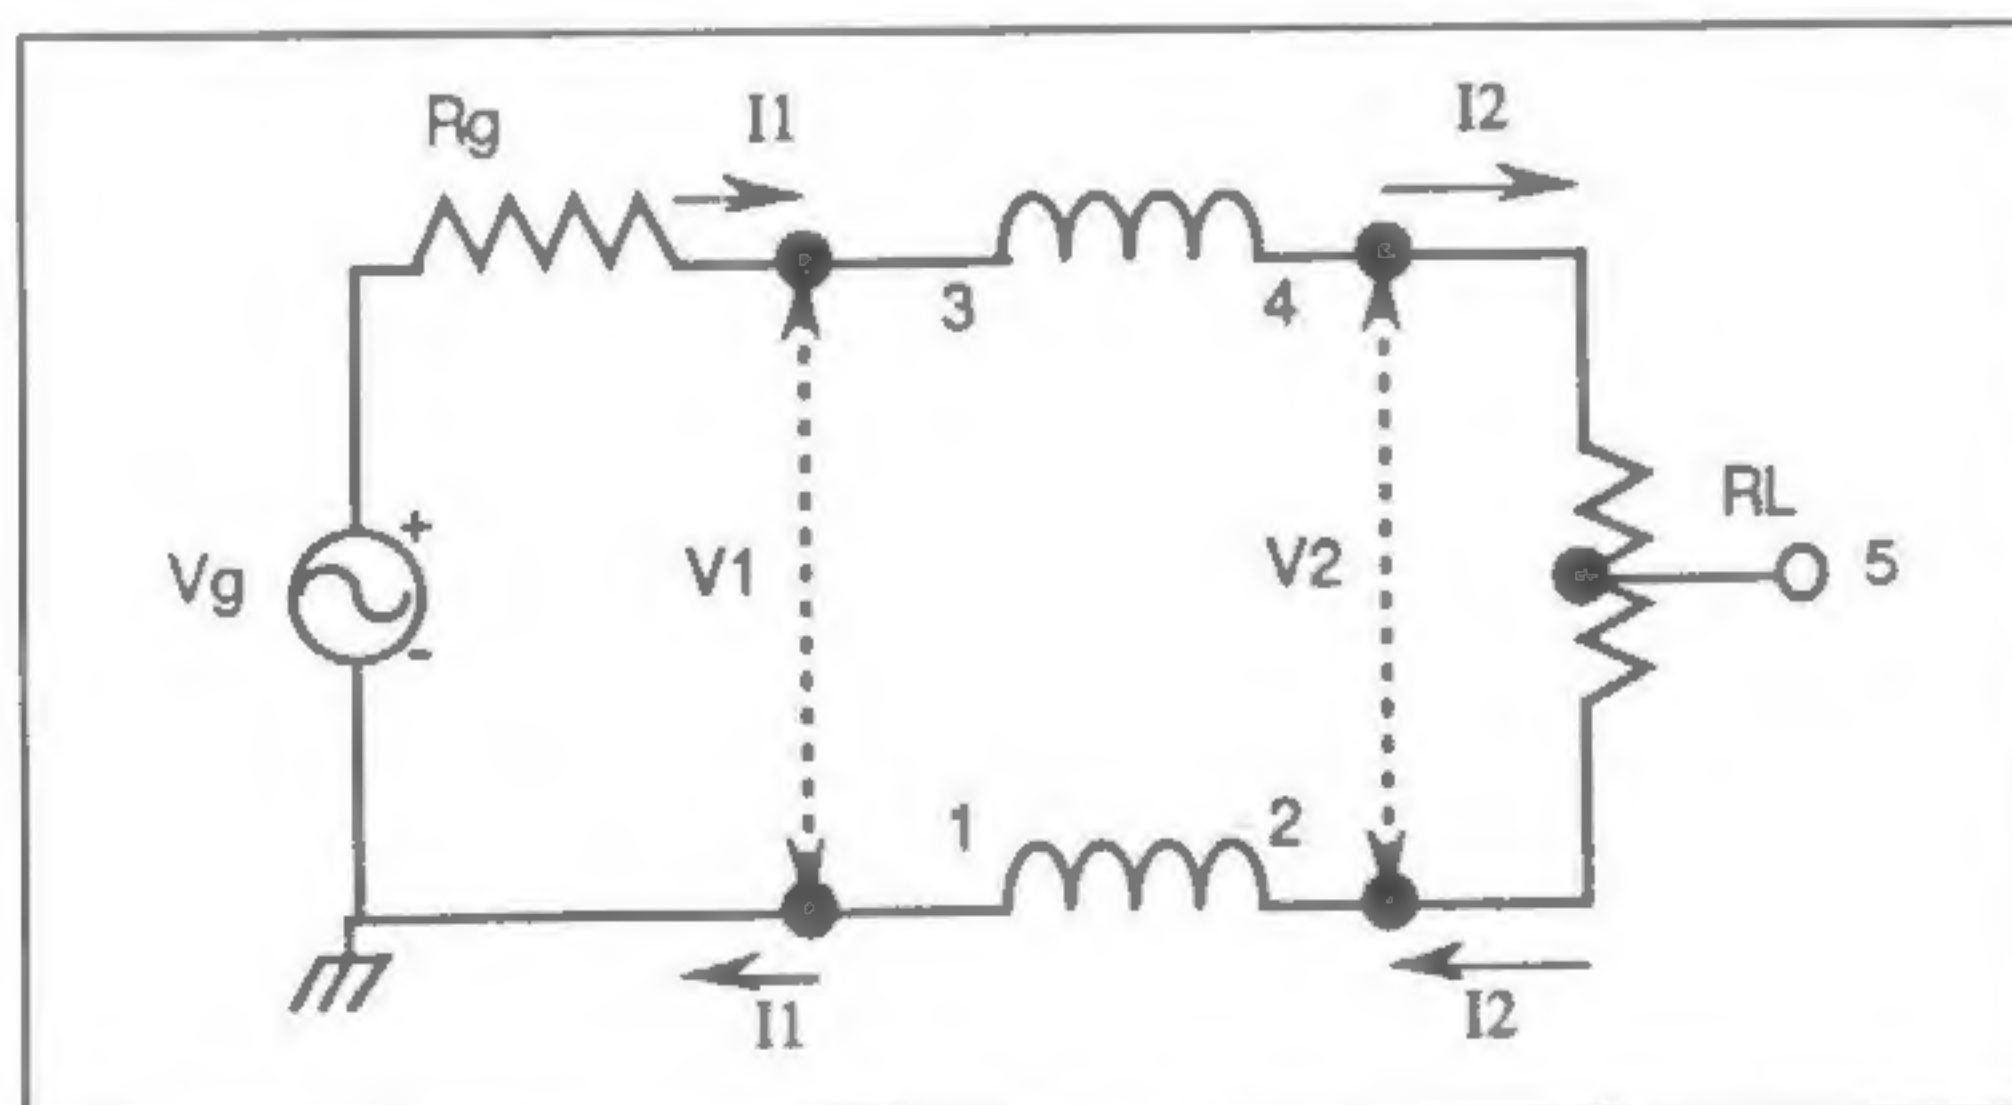

Figure 1. The Guanella 1:1 balun : the basic building block
The earliest presentation on transmission line transformers was by Guanella in 1944 (2). He proposed the concept of coiling transmission lines to form a choke that would suppress the undesired mode in balanced-to-unbalanced matching applications. His 1:1 balun, also known as the Basic Building Block, is shown in Figure 1. The choking reactance, which isolates the input from the output, is usually obtained by coiling the transmission line around a ferrite core or by threading the line through ferrite beads. The objectives, in practically all cases, are to have the characteristic impedance, Z_0 , of the transmission line equal to the value of the load, R_L , (which is called the optimum characteristic impedance) and to have the choking reactance much greater than R_L (and hence Z_0). Meeting these objectives results in a 'flat' line and hence maximum high-frequency response and maximum efficiency since conventional transformer currents are suppressed.